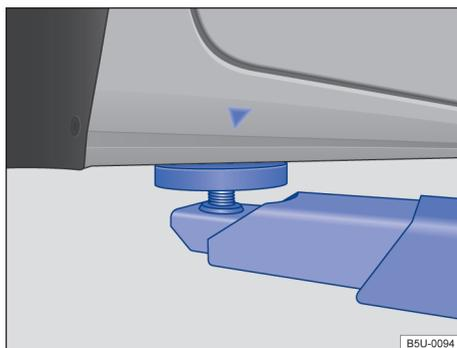
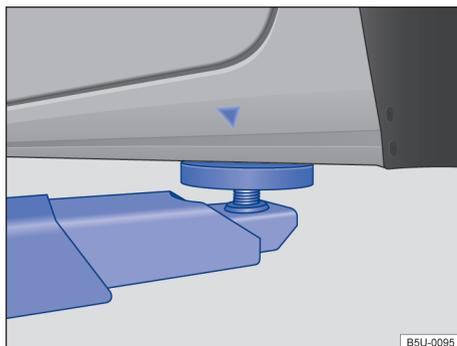

Fig. 174 Front lifting points for lifting with platform or vehicle jack.
Fig. 175 Rear lifting points for lifting with platform or vehicle jack.
The vehicle may only be lifted at the points shown in the illustrations → Fig. 174 and → Fig. 175. If the vehicle is not raised on the
- The vehicle may only be lifted at the points shown in the illustrations → Fig. 174 and → Fig. 175. If the vehicle is not lifted at the points shown, it could fall off the lifting platform when work is carried out, e.g. when the engine or transmission is removed.